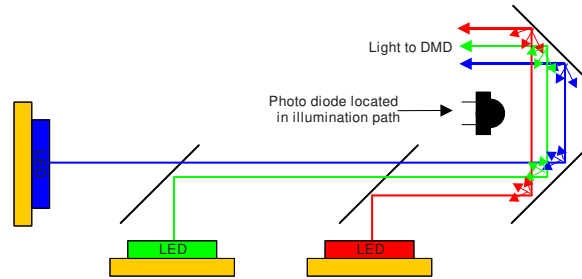

Figure 7-2. Photodiode Placement
- Ideally, a position in the illumination path (Figure 7-2) should be located that produces strong, but also balanced amplitude signal responses from each of the three LEDs at the system's target white point. Imbalance between the three channels due to non-ideal placement of the detector will limit dynamic range of the dimming system. The TIA supports an RGB trim function to help re-balance an imbalanced system. This feature is useful for completing the process of optimizing the balance of the amplitude signal responses from each LED. But it is still advisable to take care in the design of the illumination path such that the natural balance of the colors is as ideal as practical.